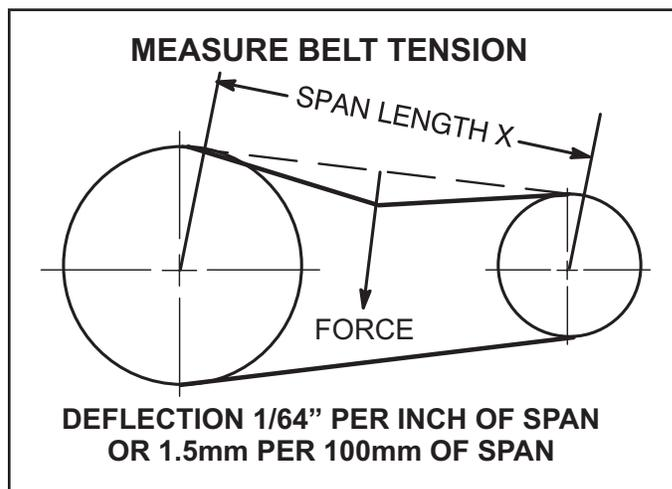

FIGURE 13
- 1 - Measure span length X. See FIGURE 13.
- 2 - Apply perpendicular force to center of span (X) with enough pressure to deflect belt 1/64" for every inch of span length or 1.5mm per 100mm of span length.